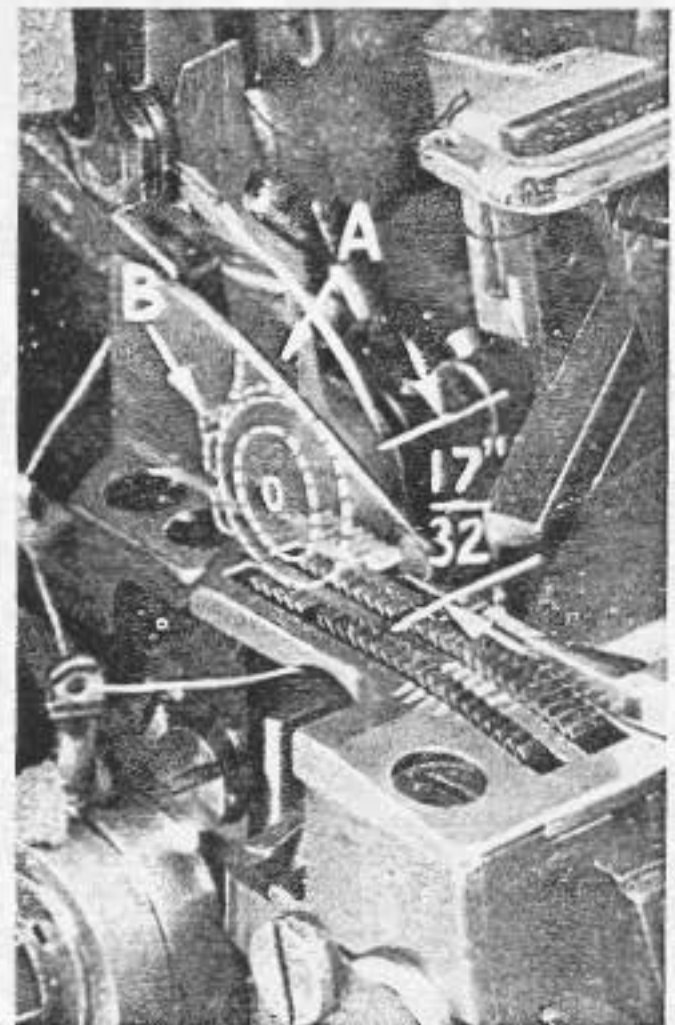

Fig. 3
With throat plate assembled in position, needle should center in the front end of needle slot. When needle is at high position, needle point should be set $\frac{17}{32}$ inch above throat plate (Fig. 3). To align needle or set the height above throat plate, move needle driving arm (A, Fig. 3) by loosening clamp screw (B). Remove throat plate after making first adjustment.